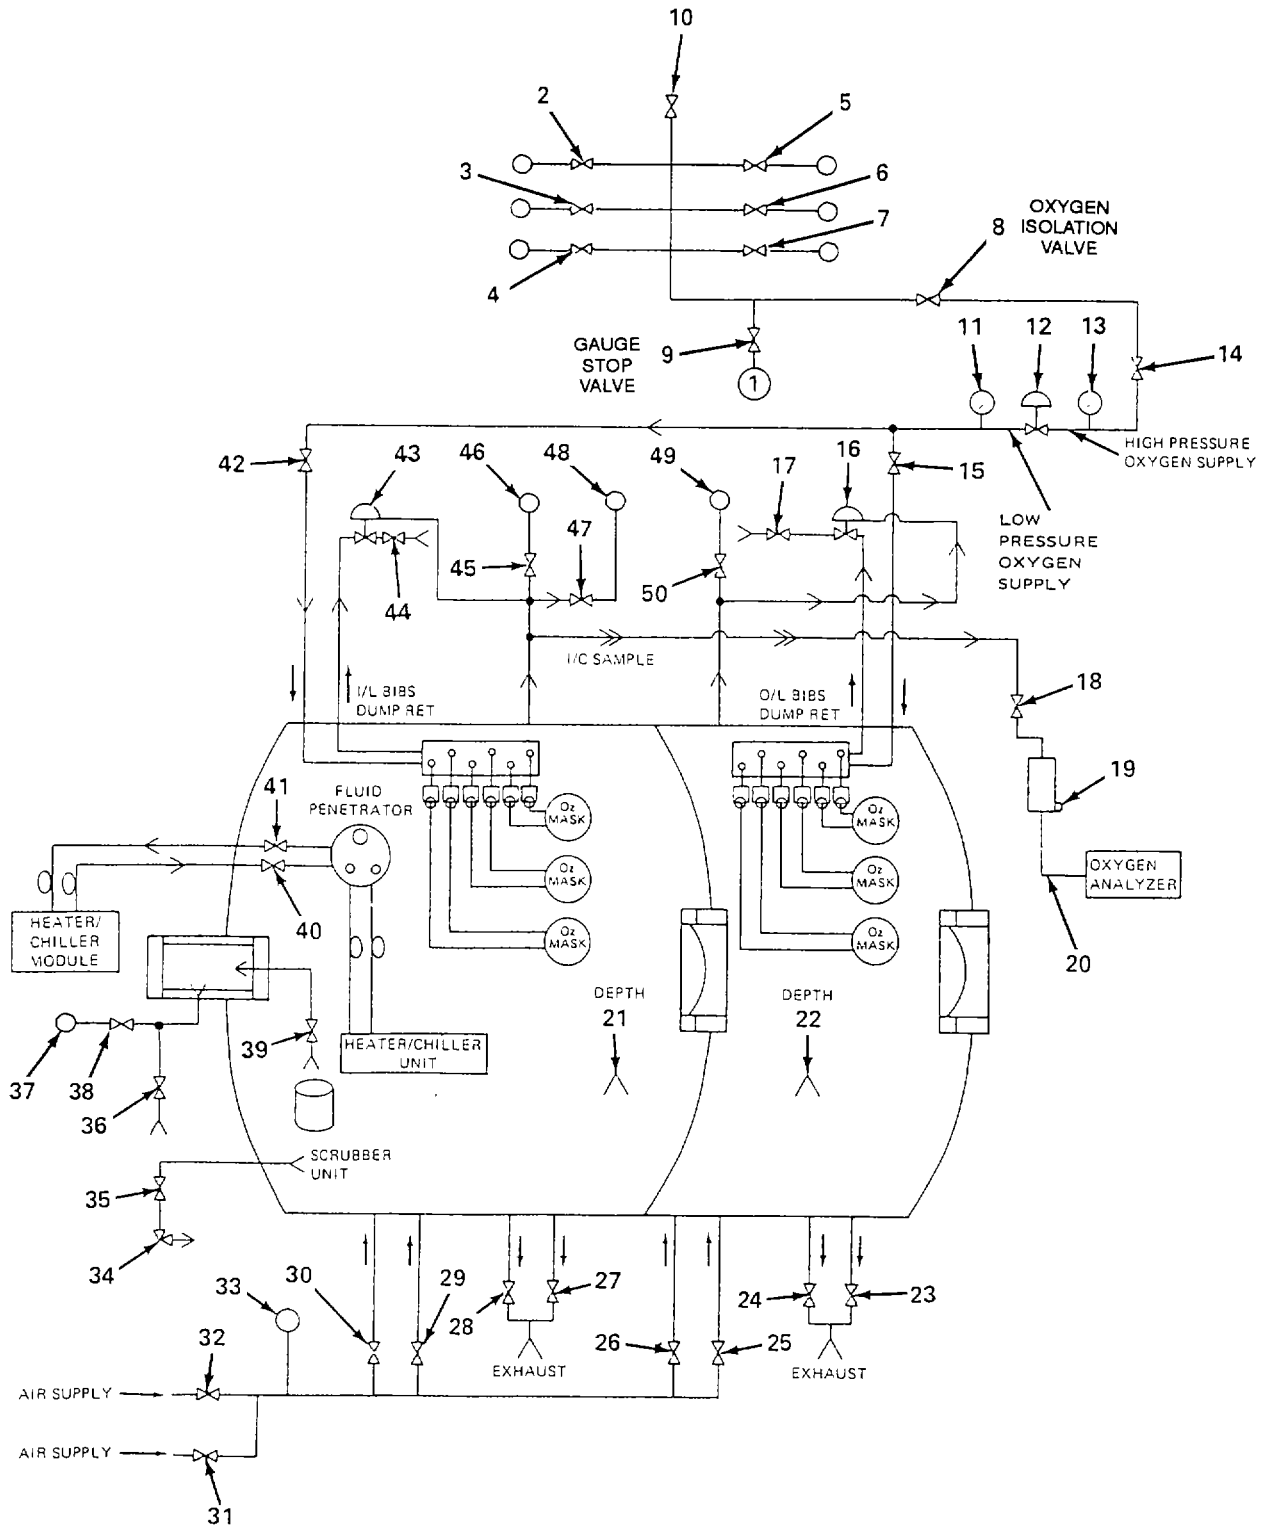

Figure 1-3. Flow Diagram (Sheet 1 of 3).
a. Environmental Control. Figures 1-3 and 1-4 provide the flow and electrical diagrams of the 3-Person Recompression Chamber. The Recompression Chamber provides a controlled pressurized enclosure for the treatment of physiological disorders caused by inability of the human body to adjust to pressure changes. Air pressure in the outer and inner lock is controlled by air supply and air vent valves located in the external control panel. An external heater/chiller module supplies the internal heater/chiller unit with cooling/heating fluids to heat or cool the I/L of the chamber. The oxygen bottles with manifold, supplies the chamber with the needed oxygen.